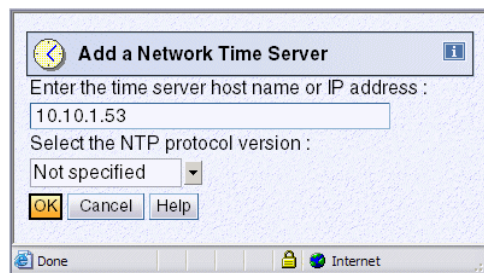

Figure 1-81 NTP server example
5. Click **Add NTP Server** to bring up a new window (Figure 1-81). The server host name or the IP address of a known NTP server must be entered in this window.
6. Enter the IP address of the NTP server the HMC should be synchronized with (10.10.1.53) as shown in Figure 1-81 and click **OK**.